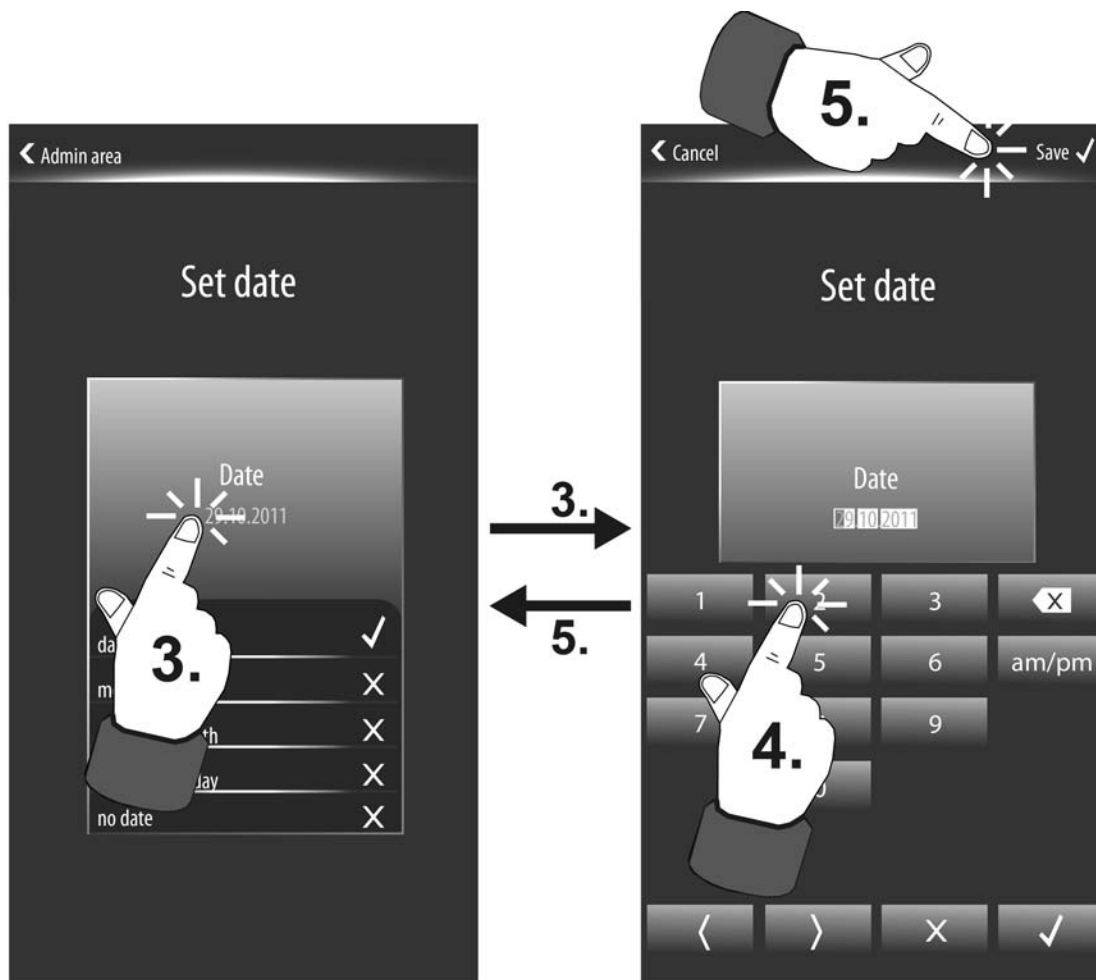

Figure 60: Editing mode for setting the date
You can set the date or time by pressing your finger on the corresponding display pages of the display area for the date or time (3) (figure 60). The display then branches to the editing mode and displays a keyboard. You can edit the date or time directly via the keyboard (4.).